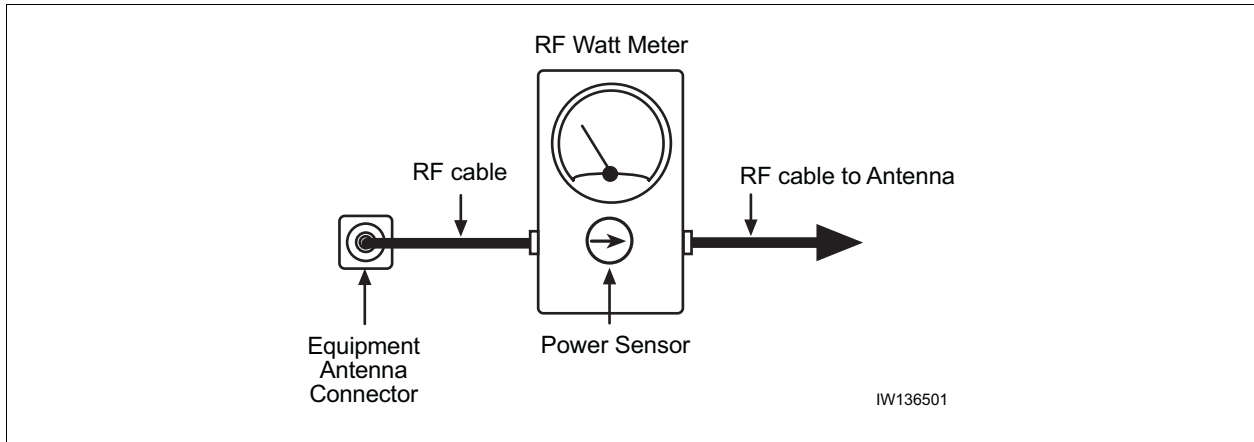
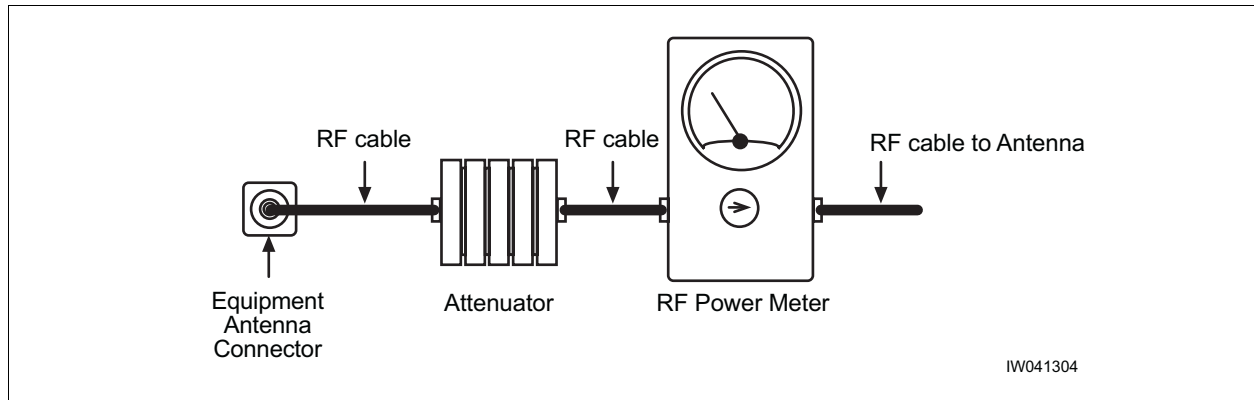

Figure 5-4: Direct RF Connection
Figure 5-5: Attenuated Power Connection
- 4 Connect the antenna cable from the TRX port that you are testing to the “out” port of the RF watt meter. See Figure 5-4.
- 5 Connect the RF cable between the Micro BTS RF output port (antenna connector) and the RF watt meter, as shown in Figure 5-4. This is the recommended method of testing forward and reflected power. Typical test cable loss is listed in Table 5-3.
If you do not have a high power sensor, you need to reduce the output power for the forward power measurement. Connect the appropriate attenuator (50 Watt or more, 10-20 dB) inline between the Micro BTS RF output port and the “in” port of the RF watt meter, as shown in Figure 5-5. You must figure the power loss of both cables and the attenuator in this scenario. You cannot measure the reflected power using this test setup. You must use the setup without the attenuator, as shown in Figure 5-4, making sure the power sensor direction arrow points toward the Micro BTS.
- 7 To measure forward (output) power, the arrow on the power sensor should point toward the antenna, as shown in Figure 5-4.